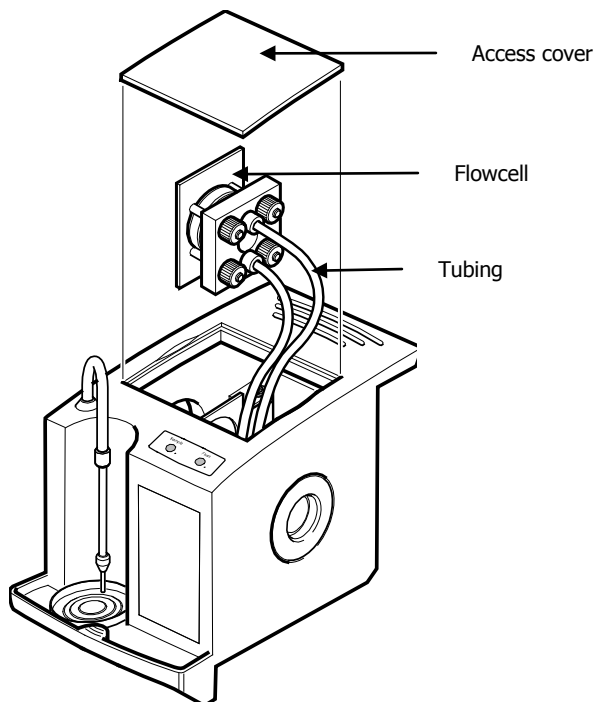

Figure 3 Flow cell orientation and tubing connected
2. Ensuring correct orientation (Figure 3), hold the flow cell just above the flow cell compartment.
3. Fit the tubing from the probe to the lower connection on the flow cell and the tubing from the pump to the upper connection on the flow cell, tightening the two nuts finger tight, as shown in Figure 3.